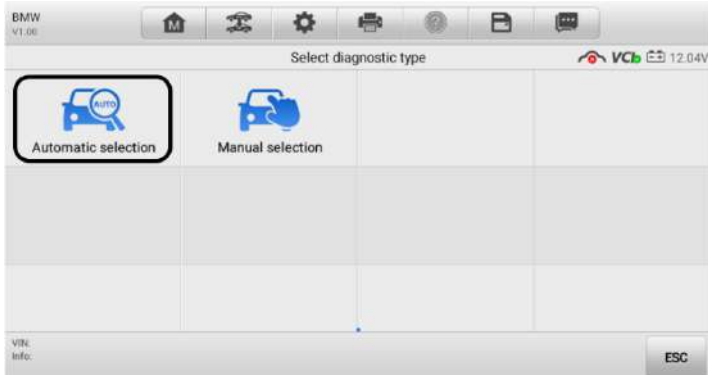

Figure 5-8 Selection Screen in TPMS
3. Tap **Manual Selection** in the diagnostic type selection screen (Figure 5-8).